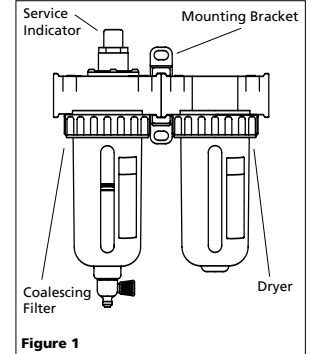

Figure 1
- Coalescing Filter Replacement - The service indicator on the coalescing filter (shown in Figure 1) signals when the filter element needs to be replaced. When the indicator pops up, the filter element must be replaced. Use replacement filter element PA208703AV.